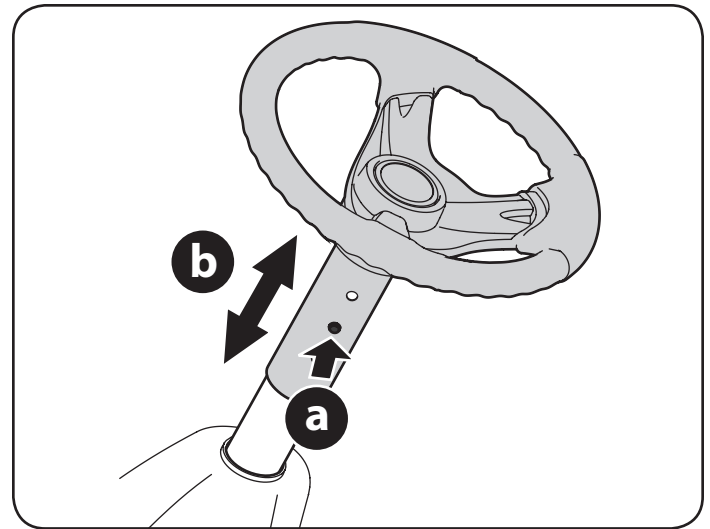

Figure 10
2. Push the button (a) on the steering column and raise or lower the steering wheel (b) to the desired position. See Figure 10.